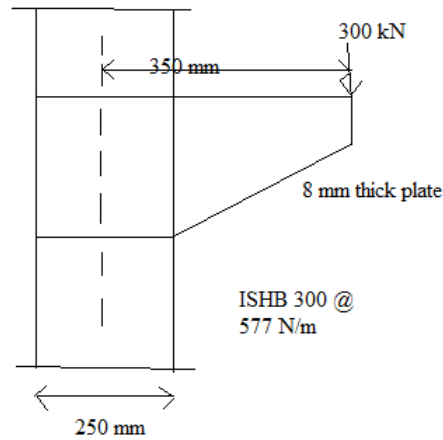

Figure 1
- (b) A bracket is bolted to the flange of the column as shown in Figure 1 using 8 mm thick bracket plate. Use M20 bolt of grade 4.6. Design the connection. [BL: Apply| CO: 5|Marks: 7]